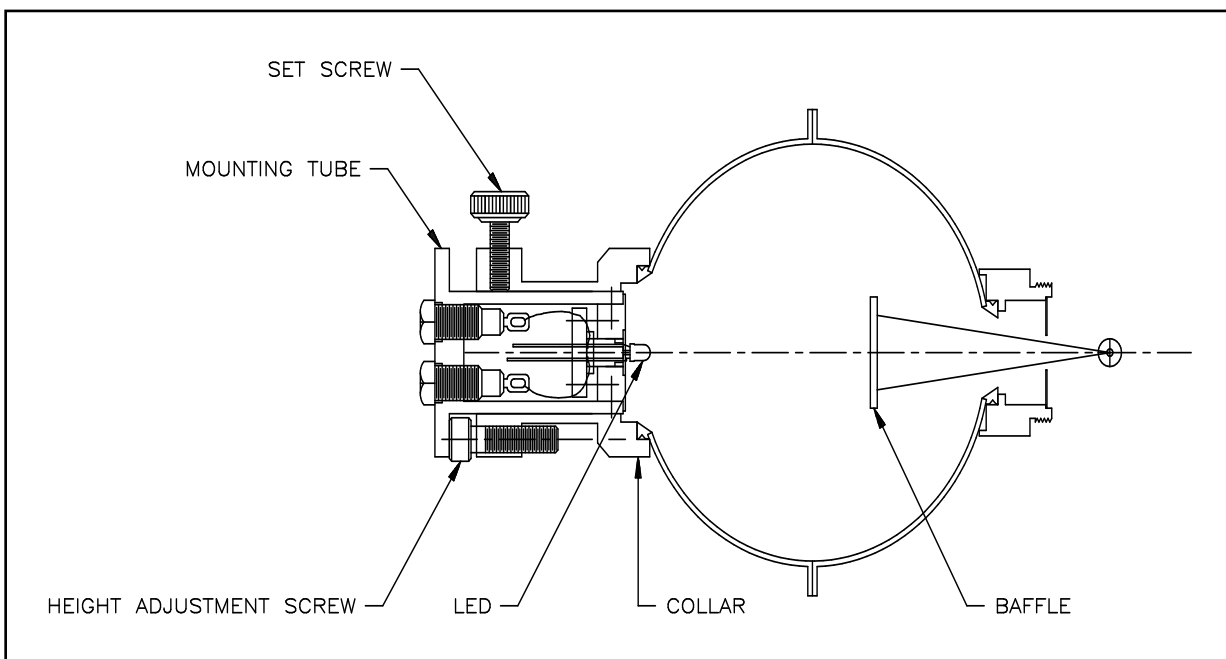

FIGURE 61 – IS-655 / IS-670 INSIDE VIEW
The IS-655 / IS-670 is a 3 inch sphere designed to measure the total luminous flux (lumens) or radiant flux (watts) of LEDs or other small source such as miniature lamps. This accessory consists of a sphere with baffle and LED Mounting Tube (See Figure 61). During operation, the LED is inserted into the interior end of the Mounting Tube, the Adjustment Screw is set so that the tip of the LED protrudes precisely 0.100 inches into the sphere, and the measurement is conducted. The power cables for the LED (plus and minus current) are connected via mini banana jacks located on the anterior end of the mounting tube.
1. Loosen the Set Screw (see Figure 61) by turning it counter-clockwise.
1. Referring to Figure 61, position the tip of the LED so that it is directly adjacent to the Height Adjustment Screw, and resting on the outside surface of the Collar.